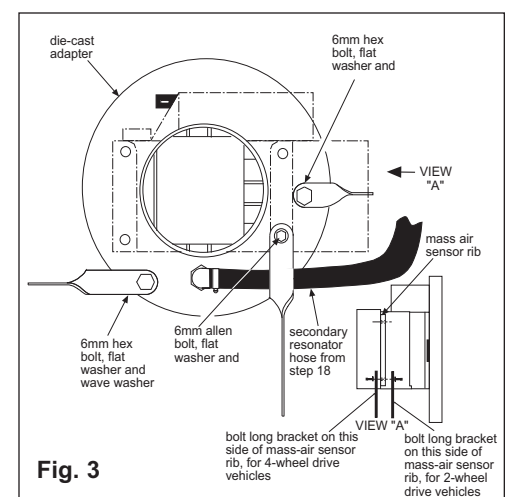

Fig. 3
- 13) Install the three brackets onto the adapter/mass-air assembly using the hardware provided. The rounded end of the bracket goes on the adapter/mass-air assembly. Tighten the bolts by hand so that the brackets will still move slightly. (see fig. 3)
- 16) Remove the secondary resonator hose from the airbox lid and the resonator chamber. Install it onto the 90° hose fitting and secure with a supplied hose clamp. (see fig. 3)